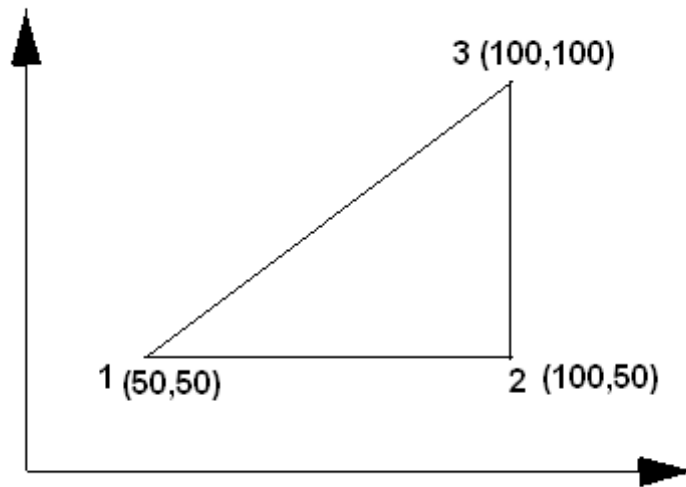

Figure 8
8. For the plane strain element shown in figure 8. the nodal displacements are given as